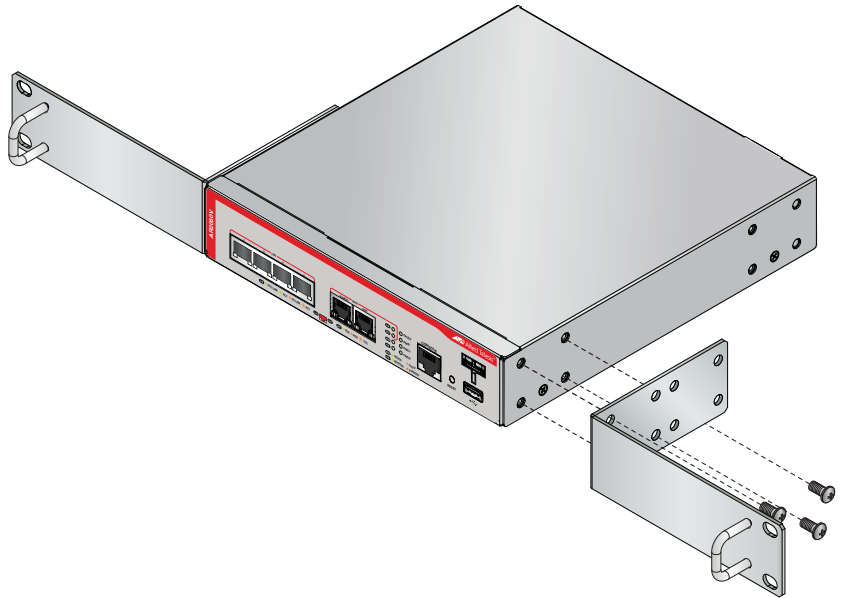

Figure 26. Attaching the equipment rack brackets
5. Use the eight bracket screws to screw the two rack mount brackets to the sides of the router, as shown in Figure 26.